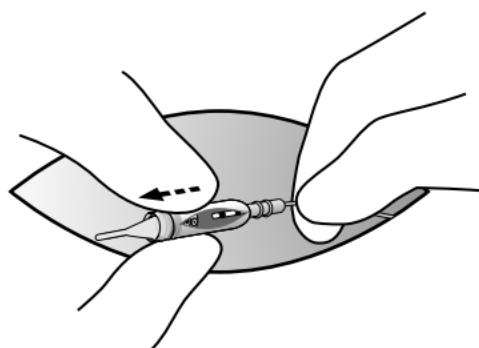

Figure 7. Remove lead from setscrew connector block.
7. Stabilize the lead and gently remove the lead from the setscrew connector block (Figure 7).